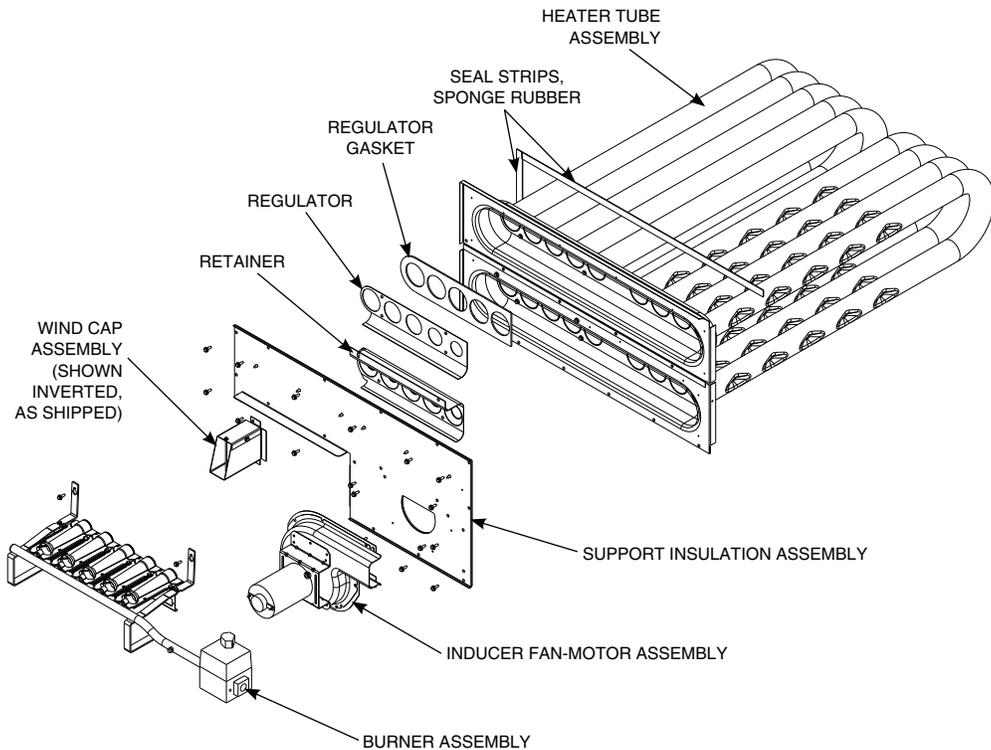

Fig. 33 - Heat Exchanger Assembly
1. Remove the combustion blower wheel and motor assembly according to directions in Combustion-Air Blower section. (See Fig. 33.)
2. Remove the 7 screws that attach induced-draft motor housing to vestibule plate. (See Fig. 33.)
7. Remove the 2 screws that attach the burner rack to the vestibule plate. (See Fig. 33.)